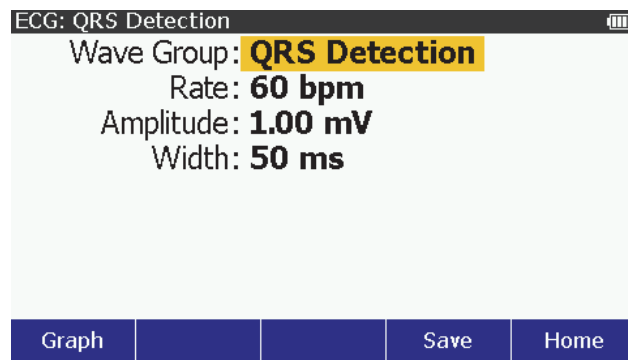

Figure 10. QRS Detection Screen
5. Push **ENTER** to show the ECG: QRS Detection screen in Figure 10 on the display.